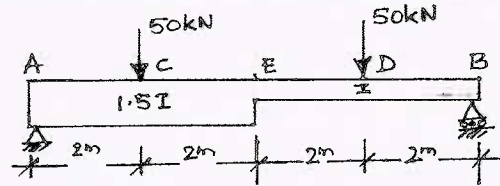

Fig.Q.3(b)
- b. For the simply supported beam loaded as shown in Fig.Q.3(b). Find the slope at A and B and deflection at 'E'. Take  $EI = 4000 \text{ kN-m}^2$ . Use moment area method. (10 Marks)